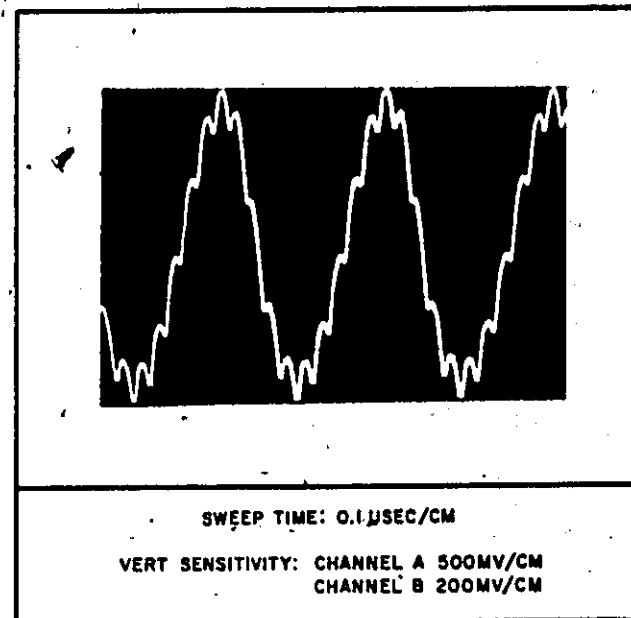

Figure 5-8. Divider Output Synchronized with Input
q. An overall division ratio of 10:1 should be seen on the 175A. See Figure 5-8. Adjust L57, if necessary, to obtain this ratio.